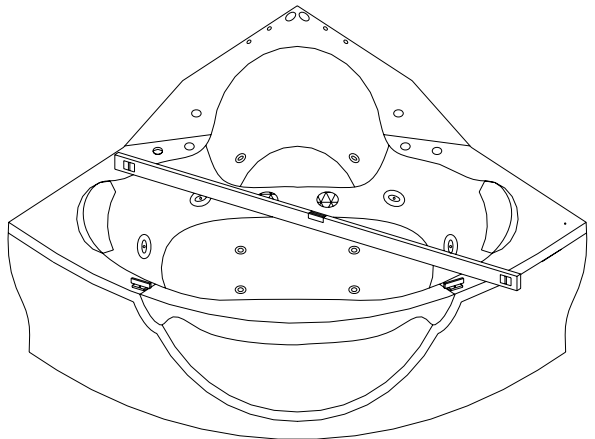

Fig.3
2. Adjust the level — using the level gauge on the surface of the bathtub to see whether it is level. If it's not, adjust the height of the fang bolts to make the bathtub on the level (as the air is in the middle of the level gauge), and then screw down the nuts. This step is very important, if the level isn't adjusted, it will make the bathtub sloped and not fastness and the installation of the bolt is difficulty and any other problems. (as the Fig.3)